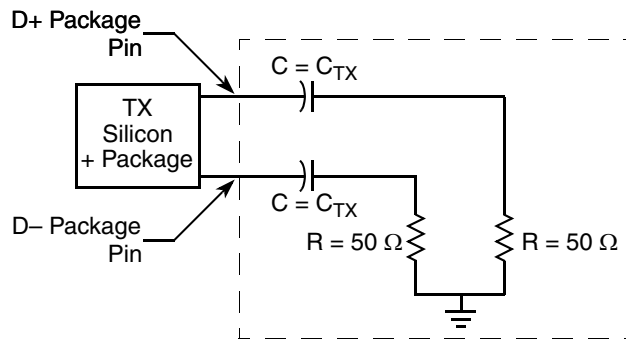

Figure 44. Compliance Test/Masurement Load
1. Specified at the measurement point into a timing and voltage compliance test load as shown in Figure 44 and measured over any 250 consecutive TX UIs.
- Specified at the measurement point and measured over any 250 consecutive UIs. The test load in Figure 44 should be used as the RX device when taking measurements. If the clocks to the RX and TX are not derived from the same reference clock, the TX UI recovered from 3500 consecutive UI must be used as a reference for the eye diagram.
2. Specified at the measurement point into a timing and voltage compliance test load as shown in Figure 44 and measured over any 250 consecutive TX UIs.
2. Specified at the measurement point and measured over any 250 consecutive UIs. The test load in Figure 44 should be used as the RX device when taking measurements. If the clocks to the RX and TX are not derived from the same reference clock, the TX UI recovered from 3500 consecutive UI must be used as a reference for the eye diagram.
The AC timing and voltage parameters must be verified at the measurement point, as specified within 0.2 inches of the package pins, into a test/measurement load shown in Figure 44.